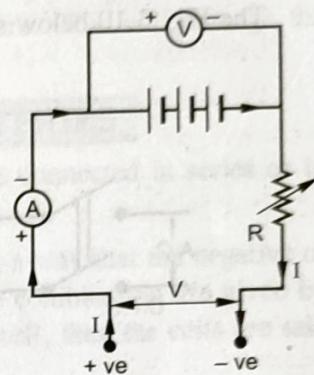

Fig. 3.8.
1. Constant Current Method : In this method, the charging current supplied to the battery is kept constant throughout the charging process by adjusting the value of variable resistance R as shown in Fig. 3.8.